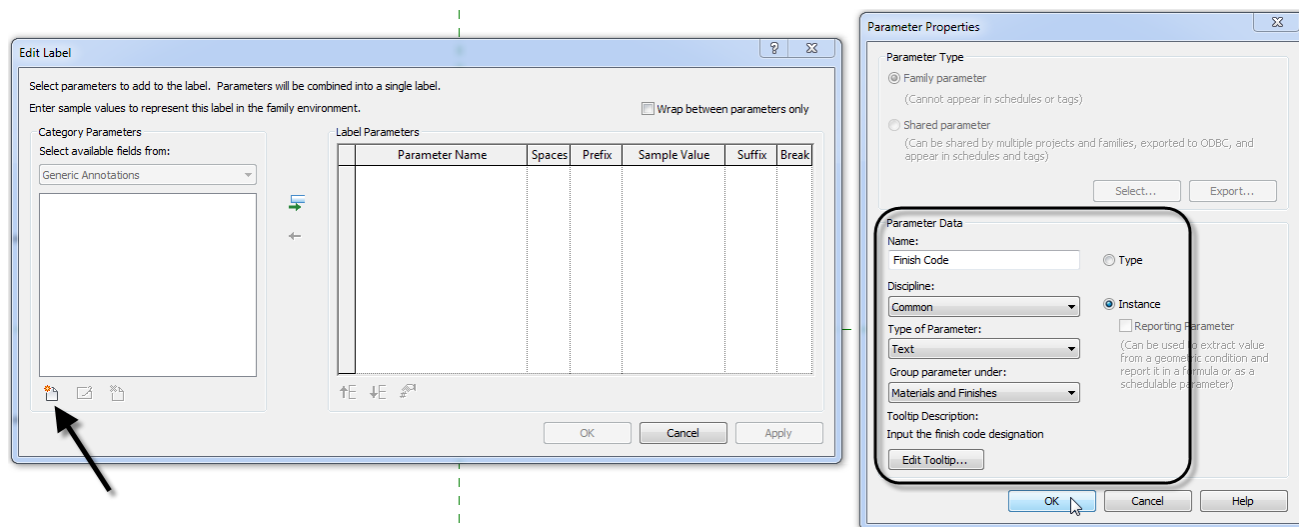

Figure 20 – Create a Parameter for the finish code designation
6. Click OK to create the parameter (see Figure 20).